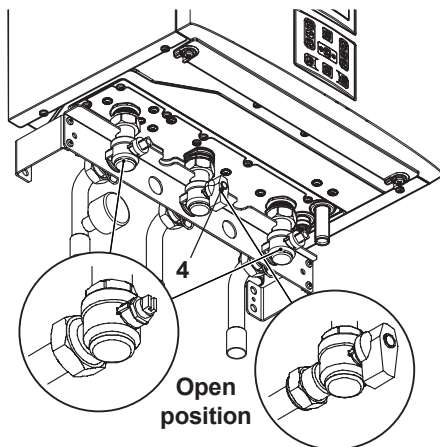

Fig. 7.1
- Open the gas cock 4 (Fig. 7.1) on the appliance and check the gas connector on the appliance for leaks.